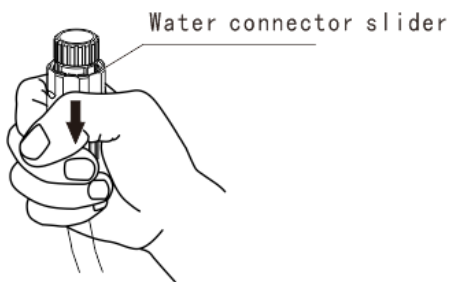

Fig.13
- (3) Remove water outlet hose as below (Fig. 13):